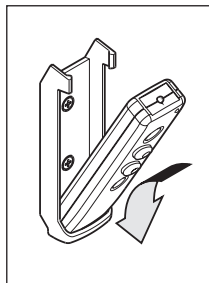

Fig. 23
5. Swing the top of the handset into the cradle (Fig. 23 - 24.)